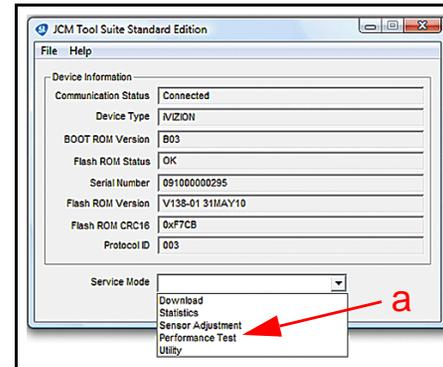
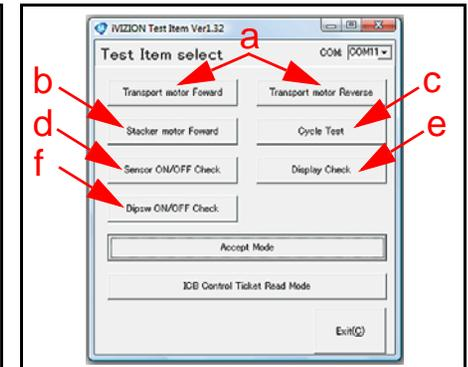

Figure 7 Typical Connected iVIZION JCM Tool Suite Screen
Figure 8 Typical iVIZION Test Item Select Screen
The JCM Tool Suite will be used to complete Functional and Sensor testing of an iVIZION® Unit. Figure 7 illustrates a typical connected iVIZION® JCM Tool Suite Screen with the “Service Mode” Pull-down Menu active. To begin a Performance Test Proceed as Follows:
1. Select “Performance Test” from the Drop-down Menu (See Figure 7 a). The “Test Item select” Screen shown in Figure 8 will appear.
These two (2) Tests runs the Transport Motor in a Forward or Reverse direction (See Figure 8 a).
- A **flashing Yellow** LED indicates a correct Motor speed occurred (See Figure 8 b).
- Normal Operation is indicated when the Test LED remains **OFF** (See Figure 8 c).
- Block each Sensor to test it. The Display will show “**ON**” or “**OFF**” indicating the functional status of the Sensor blocked (See Figure 8 d).
- The LEDs will continuously cycle through **Red, Green & Blue** Colors (See Figure 8 e).
- Block each Sensor to test it (See Figure 8 f).